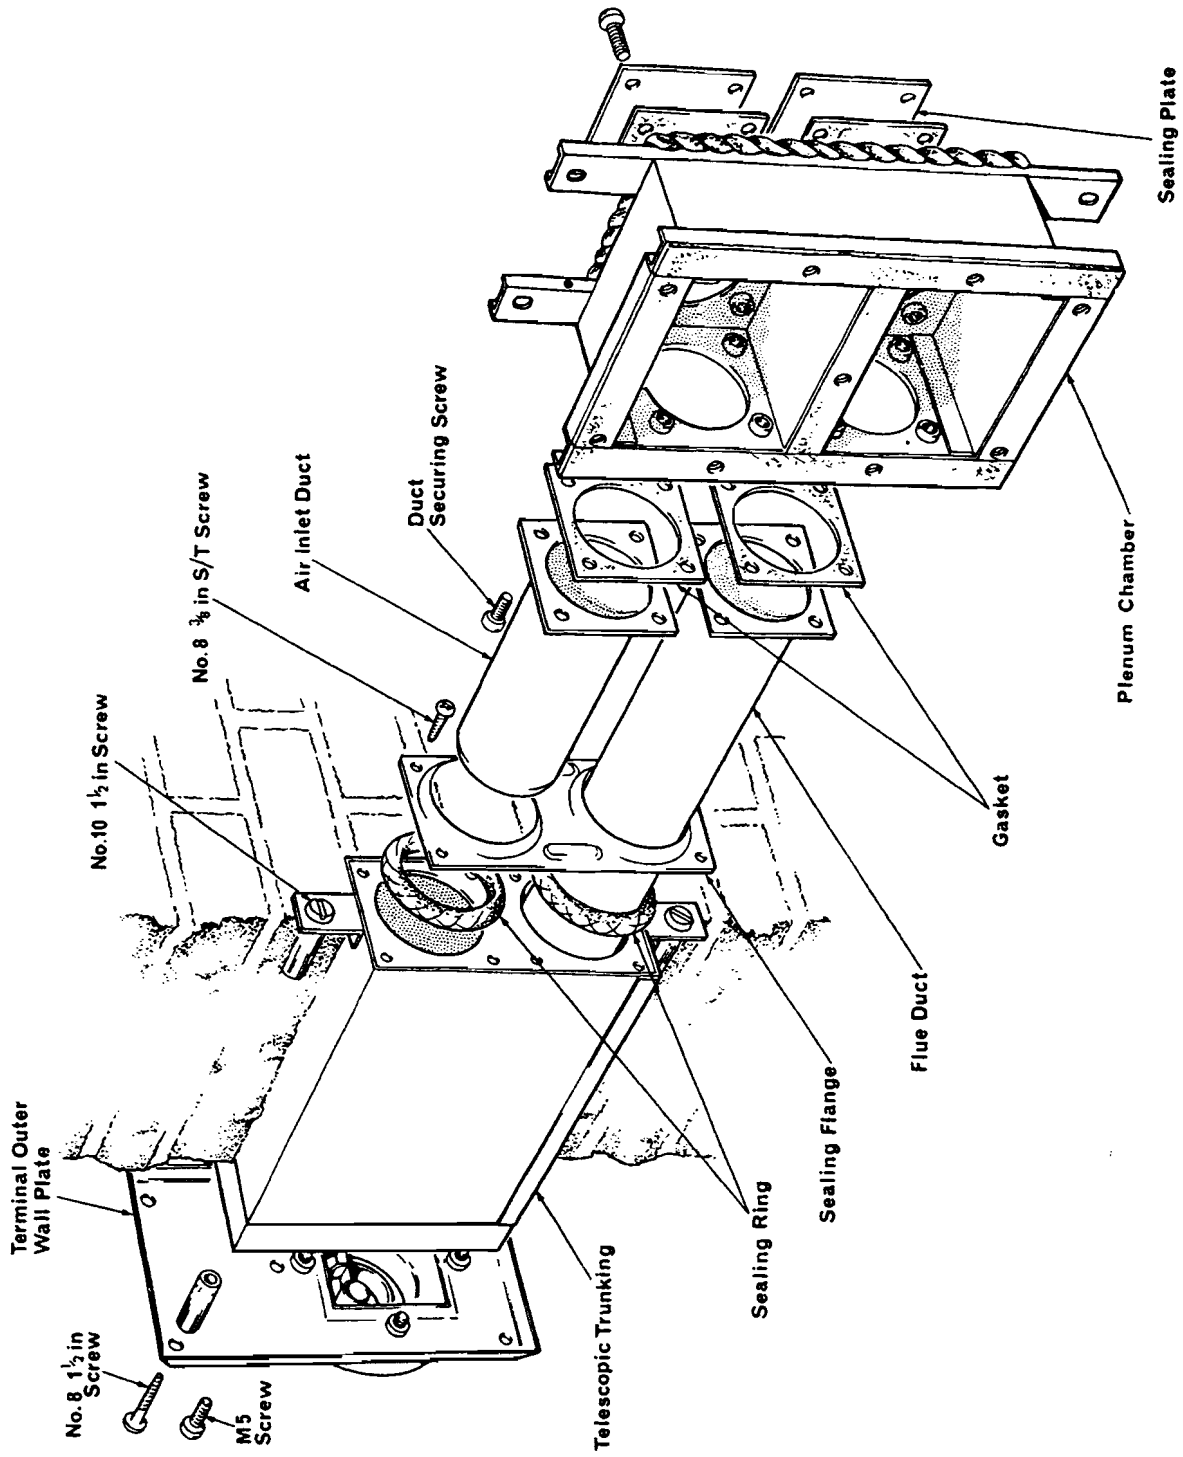

Fig. 7 ARRANGEMENT OF NETAHEAT 16/22 DUCTS
B. Potterton Netaheat 16 - 22 only — See Fig. 7.
- (1) The plenum chamber has two connections for the fresh air and flue ducts, one to one side and the other to the rear. One of these connections is blanked off with two sealing plates and gaskets and depending on the direction the ducts are to be connected to the boiler, these should be re-positioned by the installer if necessary. The single side connection can be used either for a left or right-hand duct arrangement, simply by rotating the plenum chamber to the required position. With a rear outlet, the smaller opening in the plenum chamber (air duct) must be positioned uppermost.
- (2) Fit the inlet and outlet duct assembly to the plenum chamber using the eight screws (Accessories Card Item C) and interposing the two gaskets. Ensure that the short air duct is positioned uppermost.
- (3) Temporarily secure the plenum chamber to the wall using the four 2 in. No. 12 screws, cup and flat washers (Accessories Card Item B), positioning the flue and fresh air ducts through the wall.
- (4) Mark off the lower flue duct at a point where it protrudes 32mm (1.3 in.) from the outside wall of the building.
- (5) The upper air duct is already sized to suit wall thicknesses between 230mm and 380mm (9 to 15in.) and will only need shortening, if the wall is less than 230mm (9 in.) thick. In this instance, cut off the nozzle end of the upper duct so that not less than 25mm (1 in.) and not more than 50mm (2 in.) protrudes inside the wall.
- (6) Remove the plenum chamber, then cut the duct(s) to size, removing all burrs.
- (7) Fit the telescopic trunking inside the wall and secure it to the inside face of the wall with two 1½ in. No. 10 screws, washers and Rawlplugs (Accessories Card Item D).